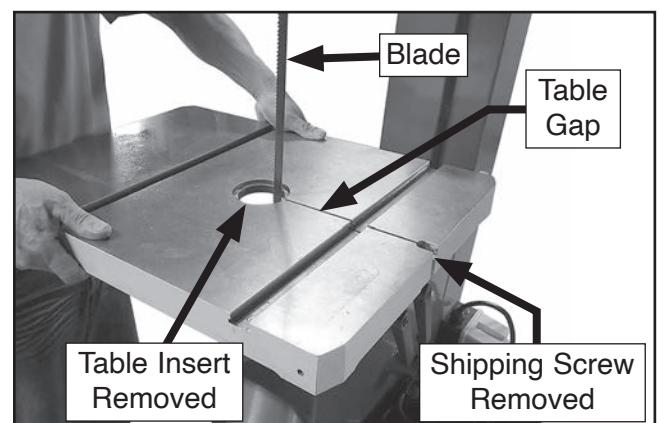

Figure 25. Placing table on saw with gap positioned around blade.
2. Remove protective shipping cover from blade, then remove table insert and shipping screw from table (see **Figure 25**).
3. Place table on saw, sliding table gap around blade (see **Figure 25**).